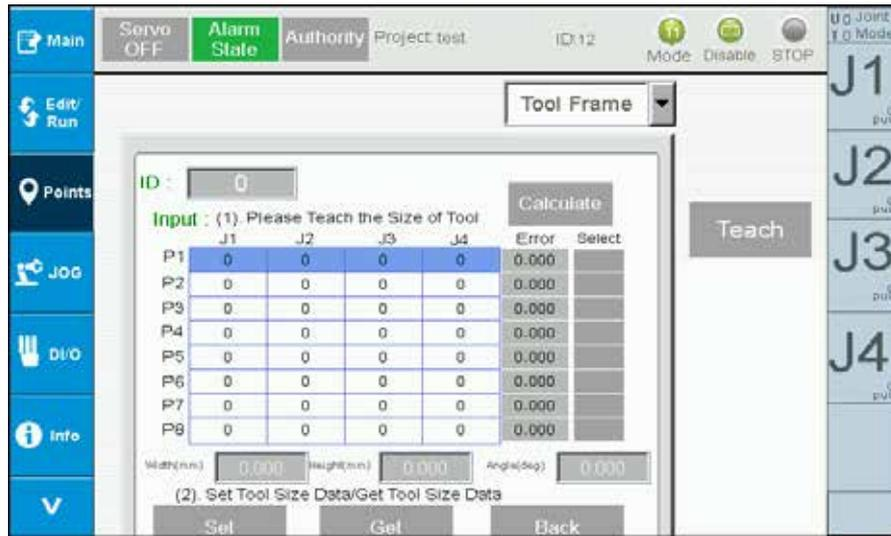

Figure 2-23 Point Data – Tool Size Calibration
- i. Press  to switch to the calibration screen as shown in Figure 2-23.